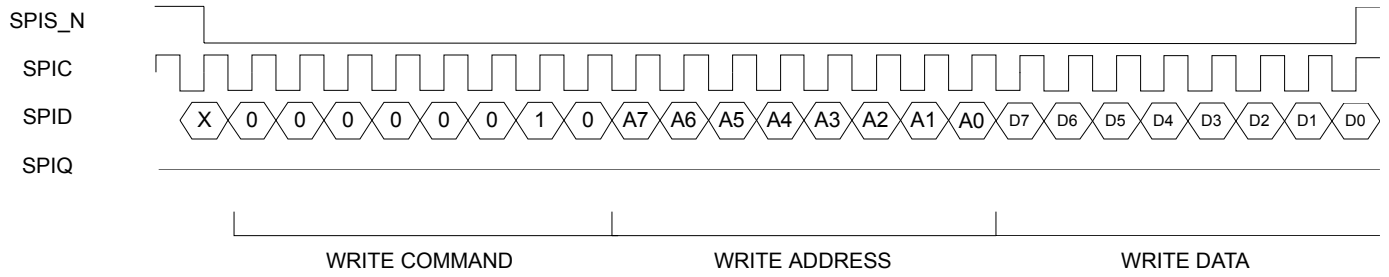

Figure 9. SPI Write Data Cycle
4. Write configuration to registers using a typical SPI write data cycle as shown in Figure 9 or SPI multiple write as shown in Figure 11. Note that data input on SPID is registered on the rising edge of SPIC.